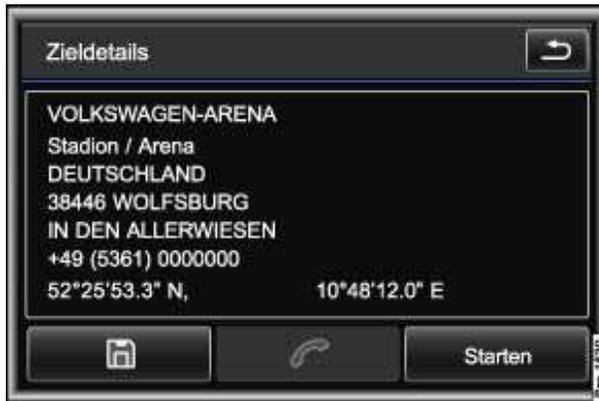

Fig. 172 Menu: Destination details.
OK: opens the destination details menu ⇒ fig. 172.
- In the map display, press the function key **OK** to open the menu **Destination details** ⇒ fig. 172.